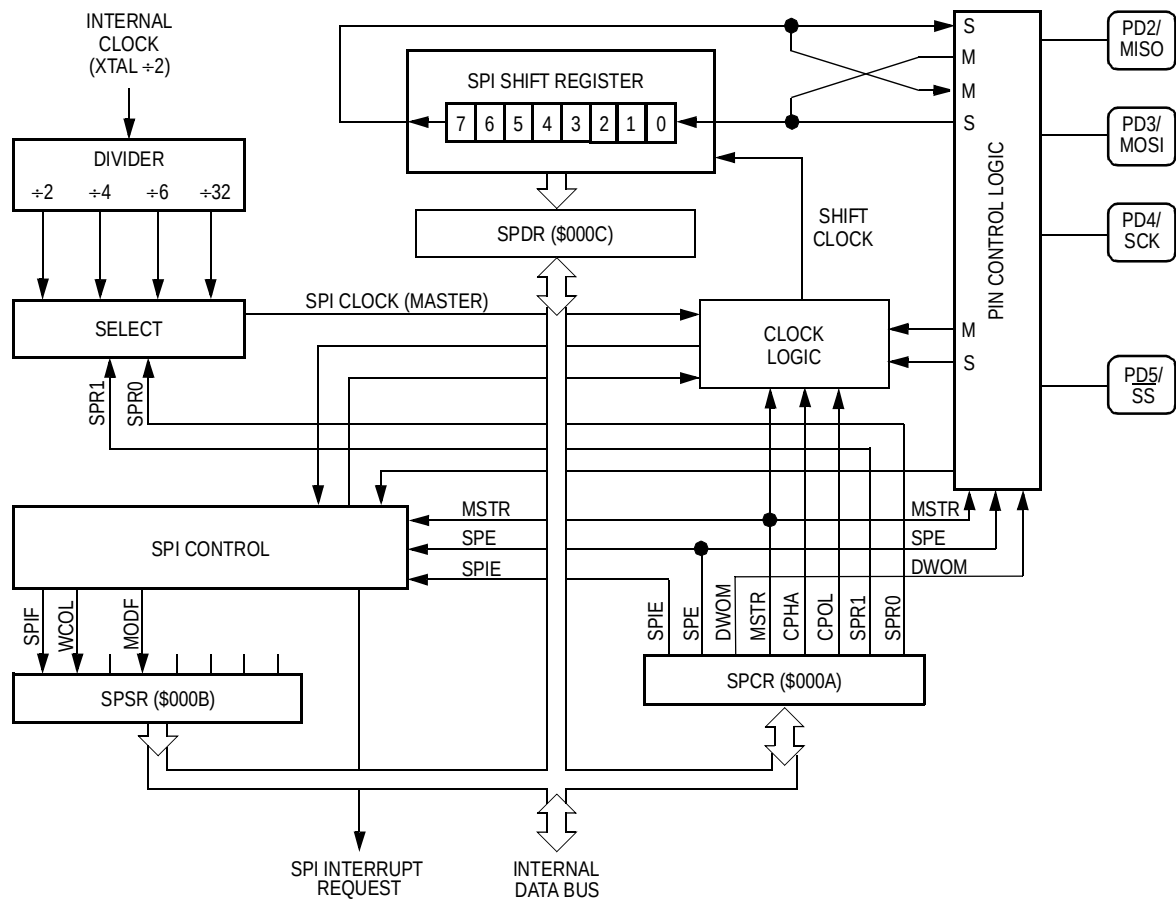

**Figure 11-1. SPI Block Diagram**
**Figure 11-1** shows the structure of the SPI module. **Figure 11-2** is a summary of the SPI input/output (I/O) registers.